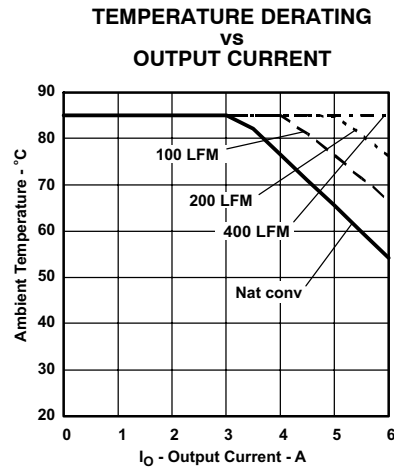

Figure 8.
- (4) The temperature derating curves represent operating conditions at which internal components are at or below manufacturer's maximum rated operating temperature. Derating limits apply to modules soldered directly to a 100–mm × 100–mm, double-sided PCB with 2 oz. copper. For surface mount packages, multiple vias (plated through holes) are required to add thermal paths around the power pins. Please refer to the mechanical specification for more information. Applies to Figure 8.